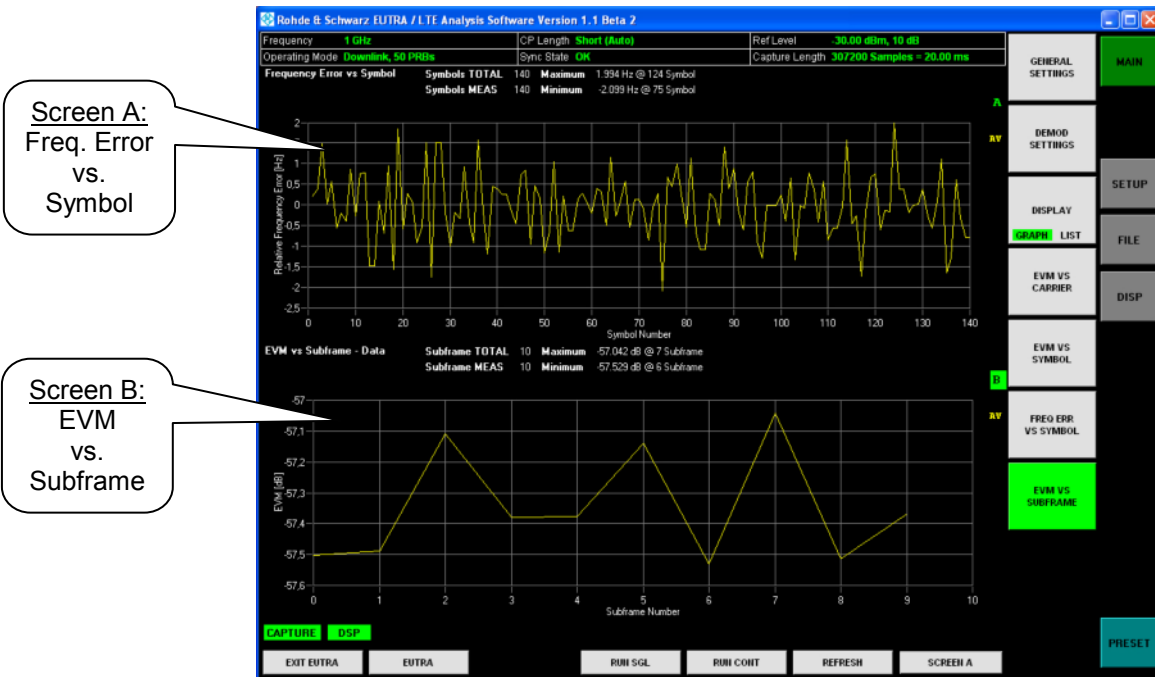

Figure 4-10 Analyzing EUTRA/LTE DL signals – Freq. Error vs. Symbol & EVM vs. Subframe
4. Frequency Error vs. Symbol (Figure 4-10: Screen A)
5. EVM vs. Subframe (Figure 4-10: Screen B)